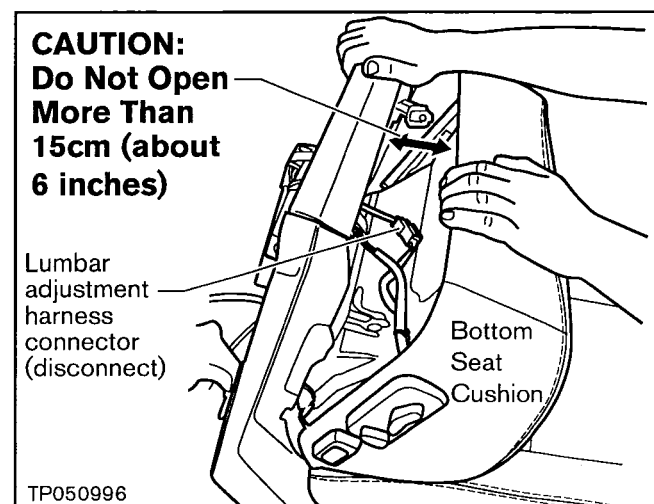

Figure 9
- a. Partially separate the bottom seat cushion from the seat frame to reach the connector (see Figure 9).
- b. Disconnect the harness connector (see Figure 9).